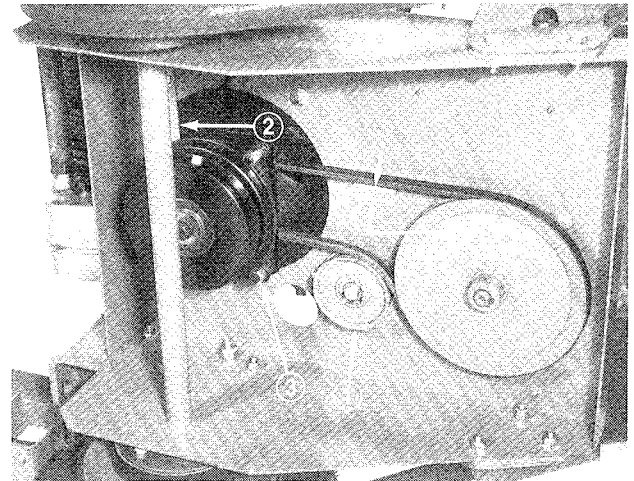

Figure 25
1. Loosen capscrew and flange nut securing idler pulley to frame (Fig. 25). Slide pulley outward relieving belt tension.
2. Remove left front engine mounting bolt securing clutch retainer to frame (Fig. 25). Unhook retainer from clutch and remove retainer.
3. Disconnect in-line wire connector and remove belt from drive pulley and clutch (Fig. 25).
6. Position and secure idler pulley to frame so belt deflection is no more than 11/64" when 5–1/2 lb of force is applied to mid span of long leg of belt (Fig. 25).
1. To adjust clutch, tighten or loosen locknuts on flange studs (Fig. 25).